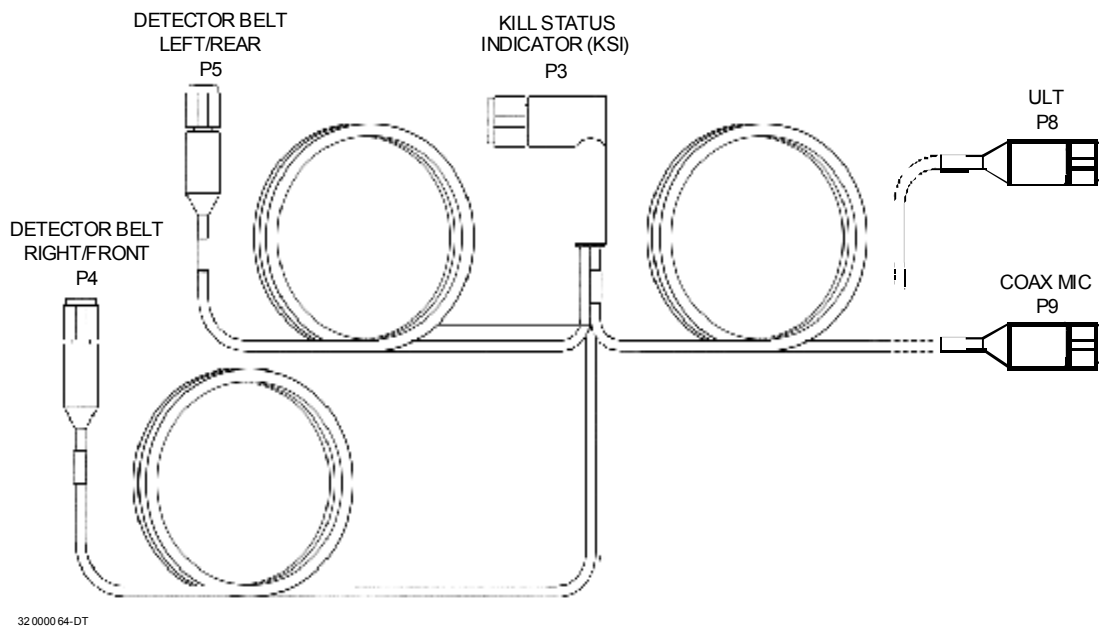

Figure 2-27. M1A1/M1A2 System Cable, Ext. Connections.
- d. Lay out cable on top of the vehicle remembering to route the cables between the blow-out doors, not on top of them. Stretch it out and look for the segments labeled KSI, **Right/Front**, and **Left/Rear**. Group these segments together and remove the periscope block from the Loader's Hatch. (See Figure 2-27.)